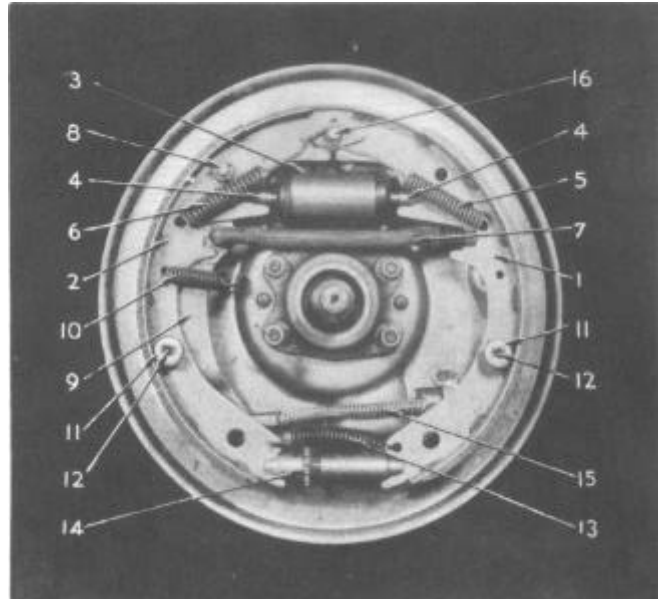

Figure 3--Single Anchor Brake-Rear - Models
The brake link (7), Figure 3, mounted between the shoes is actuated by brake lever (9), which is pivoted
These models use the single anchor, two shoe duo-servo action brake adopted in 1936. The two shoes are marked "P" for primary or front and "S" secondary or rear. Irrespective of the position in which the brake assembly is mounted, the primary shoe (1) Figure 3, is always "ahead" of the anchor (16) in the direction of the forward rotation of the